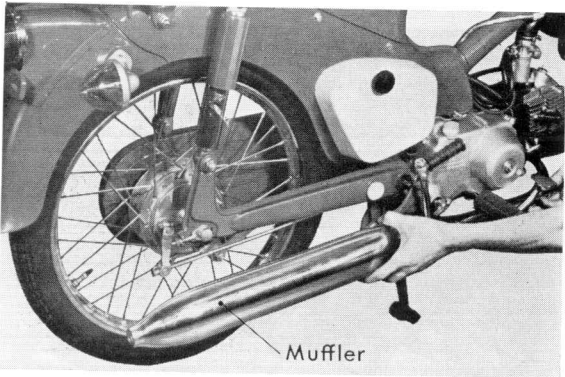
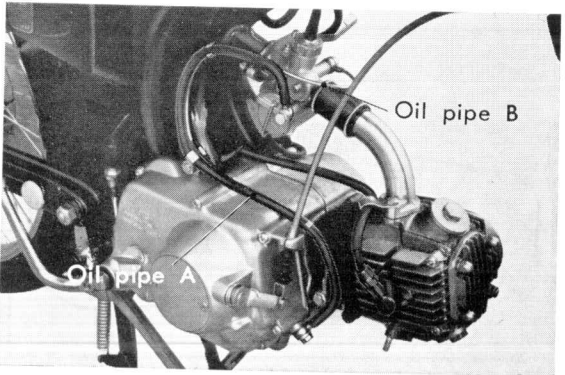

Figure 3-4. Removing muffler
Figure 3-5. Removing oil pipes
- (1) Loosen the 6mm cap nuts from the air cleaner cover and remove the air cleaner. (C50, C50M, C65, C65M)
- (2) Remove front cover
- (3) Remove the muffler (Fig. 3-4)
- (4) Remove step bar
- (5) Remove tool box
- (6) Remove oil pipes A and B. (S50, S65) (Fig. 3-5)